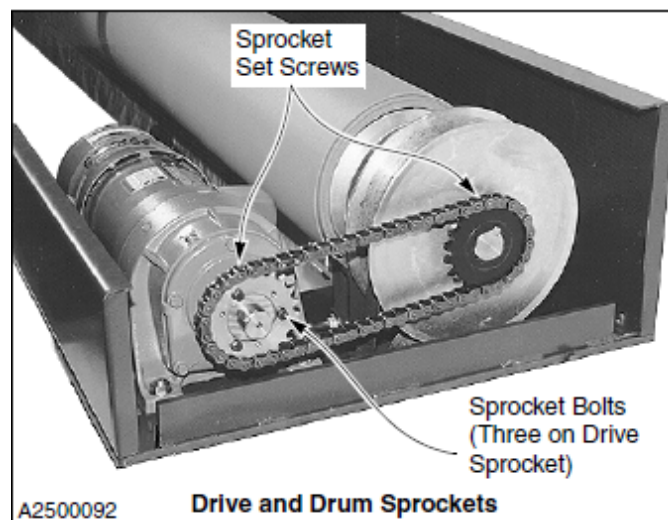
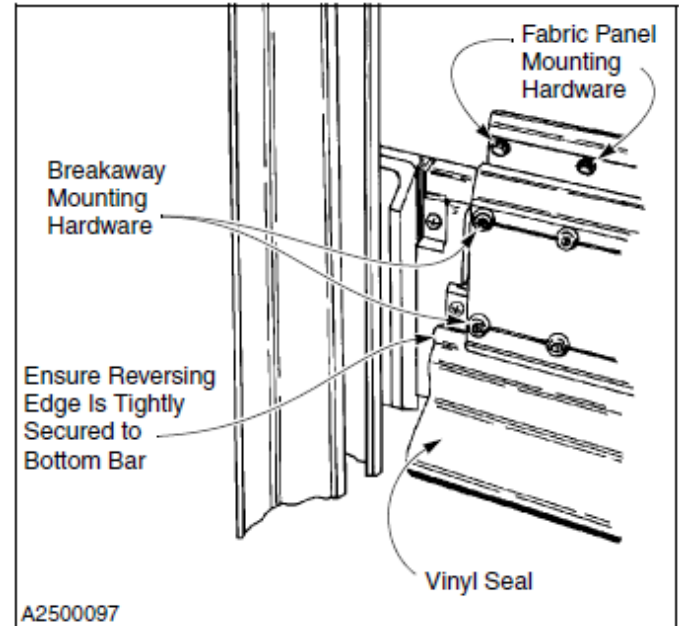

Figure 16
Figure 19
2. Make sure all nuts, bolts, and set screws are tight throughout the door. Example: motor mounting bolts, through-wall mounting bolts, floor anchors, sprocket set screws, etc. (See Figure 16 through Figure 19)